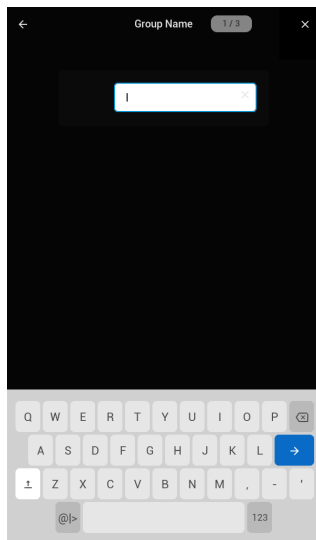

Figure 18: Name New Group
3. Input the group name and touch the blue arrow button to continue (Figure 18, below).